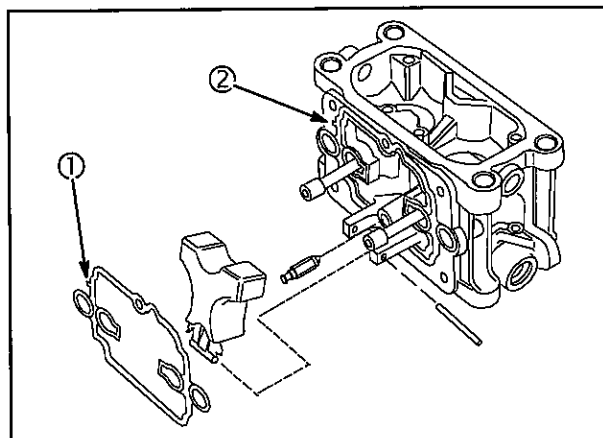

Fig. 133
- Assemble inlet needle to float. Install float, **Fig. 133**.